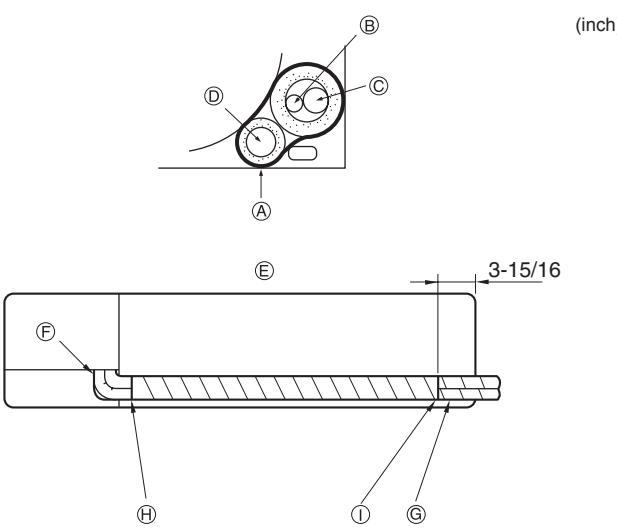

Fig. 4-5
4.4. Completing the piping (Fig. 4-5)